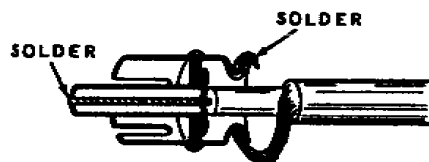

Figure 9
9. Prepare the end of the lead-in and install the phono plug as shown in Figure 9. Then plug the lead-in into the ANT socket on back of the Receiver.